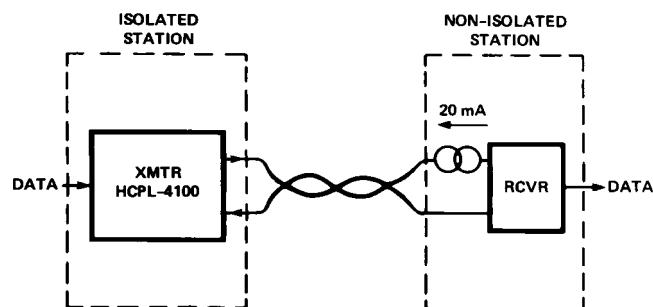

Figure 11. Simplex Point to Point Current Loop System Configuration.
- Derate linearly above a free-air temperature of 70 °C at a rate of 2.3 mW/°C. A significant amount of power may be dissipated in the HCPL-4100 output circuit during the transition from the SPACE state to the MARK state when driving a data line or capacitive load (C_{OUT}). The average power dissipation during the transition can be estimated from the following equation which assumes a linear discharge of a capacitive load: $P = I_{SC} (V_{SO} + V_{MO})/2$, where V_{SO} is the output voltage in the SPACE state. The duration of this transition can be estimated as $t = C_{OUT} (V_{SO} - V_{MO})/I_{SC}$. For typical applications driving twisted pair data lines with NRZ data as shown in Figure 11, the transition time will be less than 10% of one bit time.
The simplex configuration, whether point to point or multidrop, gives unidirectional data flow from transmitter to transmitter(s). This is the simplest configuration for use in long line length (two wire), moderate data rate, and low current source compliance level applications. A block diagram of simplex point to point arrangement is given in Figure 11 for the HCPL-4100 transmitter optocoupler.